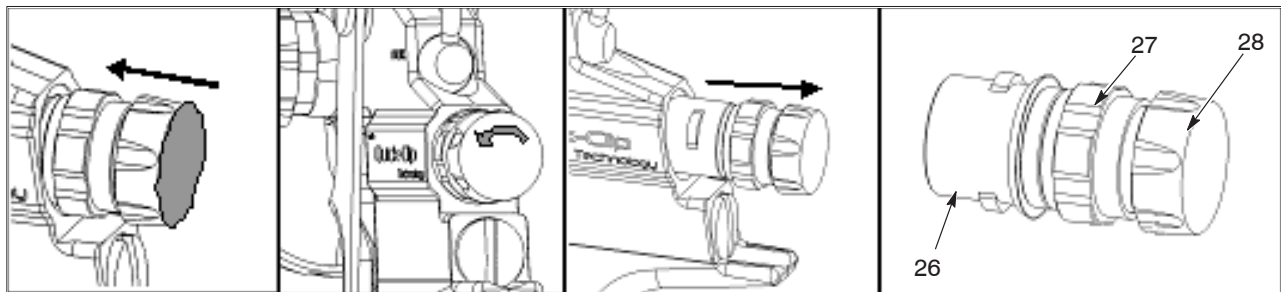
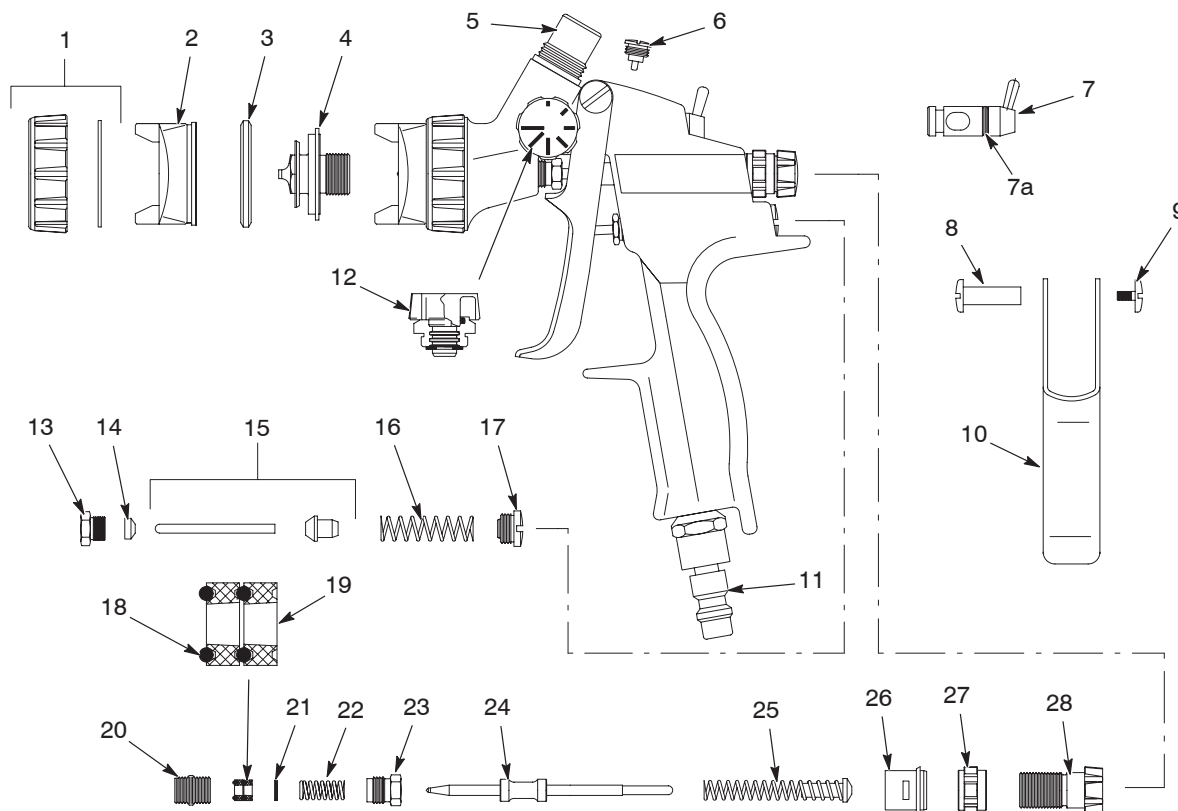

Figure 6 Removing Material Flow Regulator Assembly
Figure 7 Trilogy GP AS and LVLP Spray Guns
See Figure 7. The trigger pin (8), valve pin (15), and paint needle (24) should be lubricated with silicone-free oil daily.
1. See Figure 7. Turn the air cap retainer (1) 1/4 turn counterclockwise and remove it and the air cap from the gun.
See Figure 6 and Figure 7. The material flow regulator is an assembly consisting of a retaining collar, lock nut, and needle adjustment screw (26, 27, 28). It allows you to change the needle without losing your material flow setting.
1. See Figure 7. Remove the needle as described in Needle Removal.
3. Remove the trigger screw (9), then remove the axle (8) and trigger (10).
4. Unscrew the packing gland (23) and remove the pressure spring (22) and pressure disc (21).
5. With a hex wrench, remove the needle guide (20) from the front of the gun. Replace the two O-rings and two seals (18, 19), then reinstall the needle guide into the gun body.
1. See Figure 7. Remove the trigger.
1. See Figure 7. Remove the retaining screw (17) from the gun body.
2. Remove the pressure spring (16) and valve pin (15).